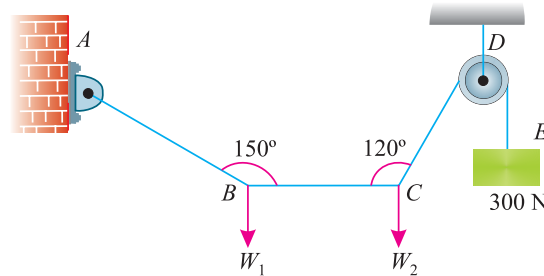

Fig. 5.7.
**Example 5.3.** A light string ABCDE whose extremity A is fixed, has weights  $W_1$  and  $W_2$  attached to it at B and C. It passes round a small smooth peg at D carrying a weight of 300 N at the free end E as shown in Fig. 5.7.